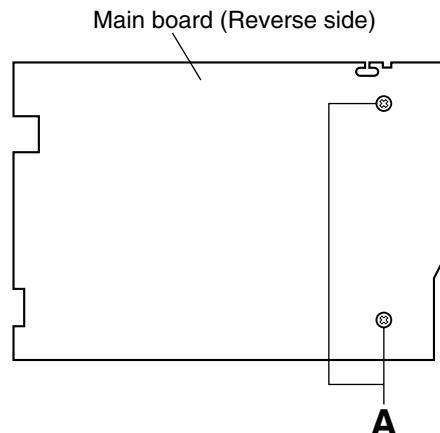

Fig.2
■ Replacing the power amplifier IC on the main board (See Figs. 2 and 3.)
(See Fig.2.)